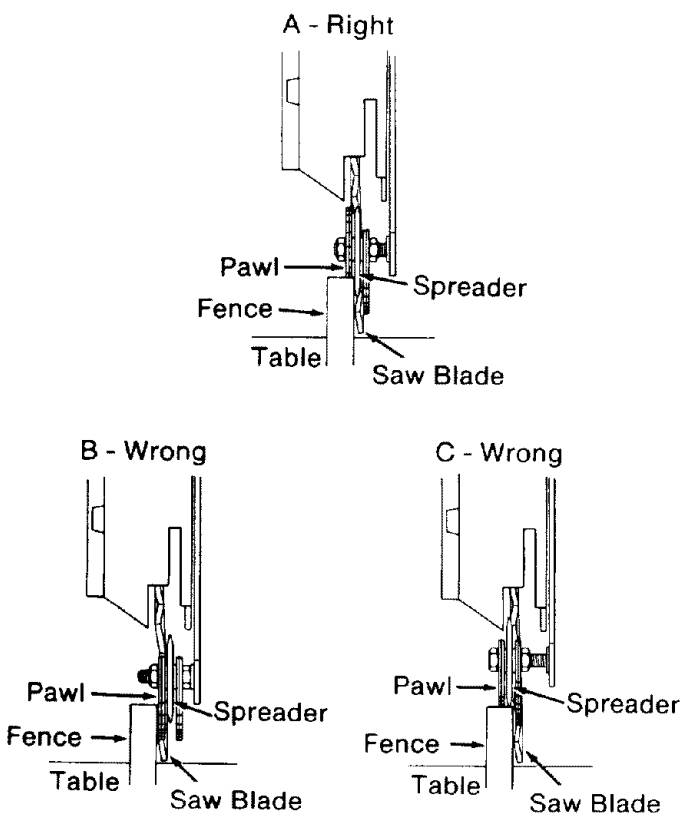

Fig. 77 - A,B,C
12. If the *spreader* and *blade* both rest against the *fence*, no adjustment is needed. (Figure 77 -A) Go to step 17, or
If the *spreader* is in front of the *fence* but not touching it (Figure 77-B), go to step 13, or
If the *spreader* hits the top of the *fence* (Figure 77-C), go to step 13.